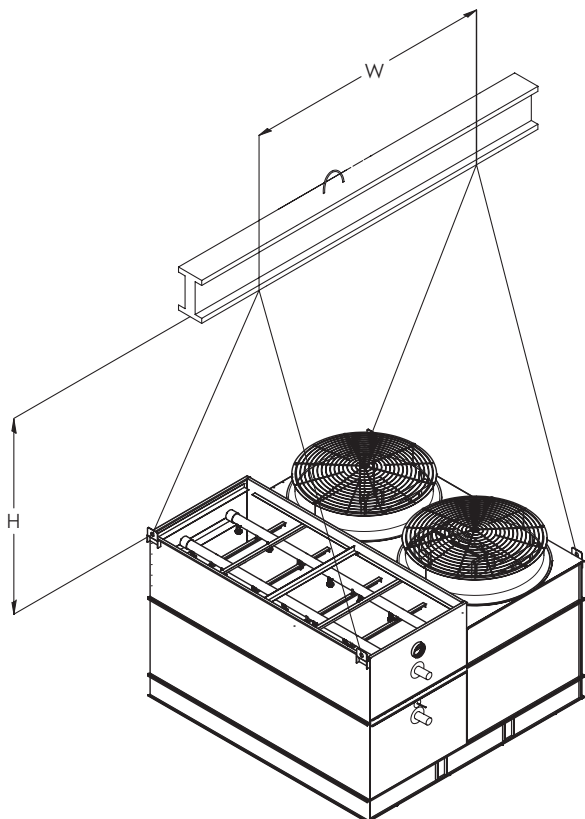

Figure 7 — S Model Coil / Fan Section – 9', 12' and 18' Long
Four lifting ears are provided in the upper corners of the coil / fan sections for lifting. Sections 24' or longer will have two additional lifting ears in the middle of the section. (See **Figures 7 and 8**)
CAUTION: USE ALL LIFTING EARS PROVIDED ON THE SECTION. A SPREADER BEAM MUST BE USED FOR LIFTING THE TOP SECTION(S) AS SHOWN IN FIGURES 7 and 8!